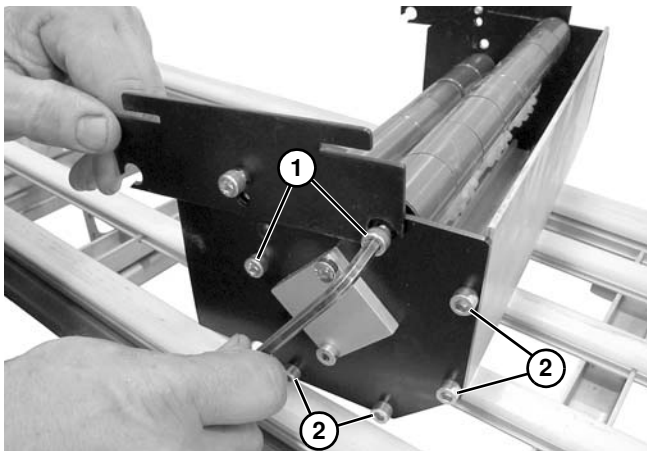

Figure 56
6. Remove two screws (**Figure 56, item 1**) on both sides of the center drive module.
7. Remove four screws (**Figure 56, item 2**) from the non-motor side of the center drive module.